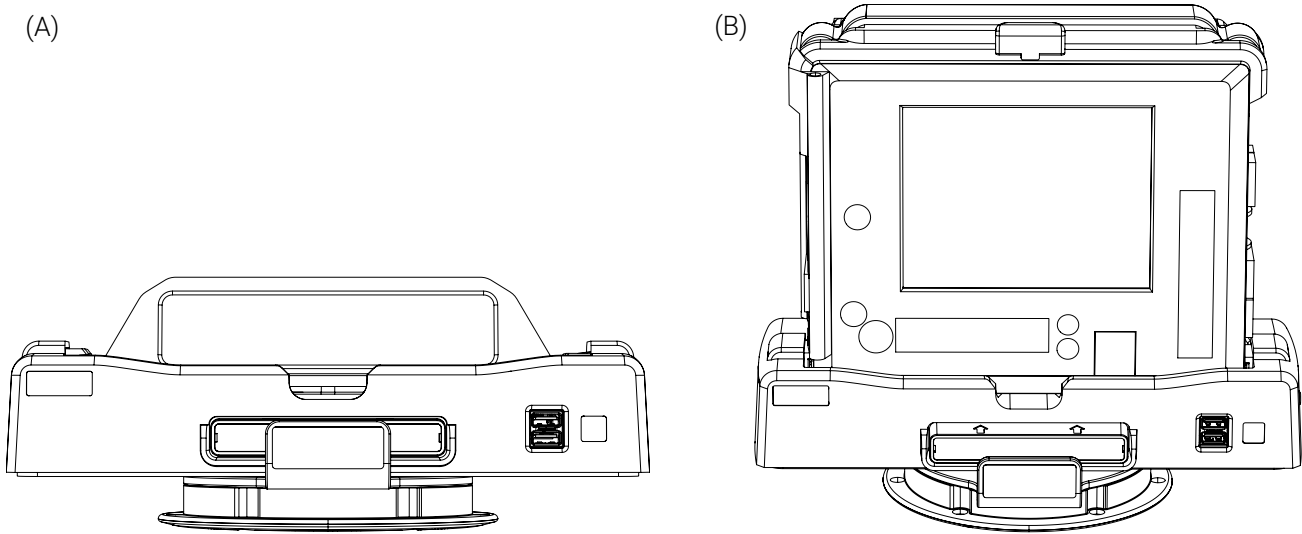

Figure 3: Tempus Pro with SMART mount installed in the Bracket Pro Serie 76 PX SMT
- Once the installation completed (Figure 3 A), install the monitor into the SMART mount (Figure 3 B). Refer to the medical device manufacturer documentation for proper installation, use and operation.